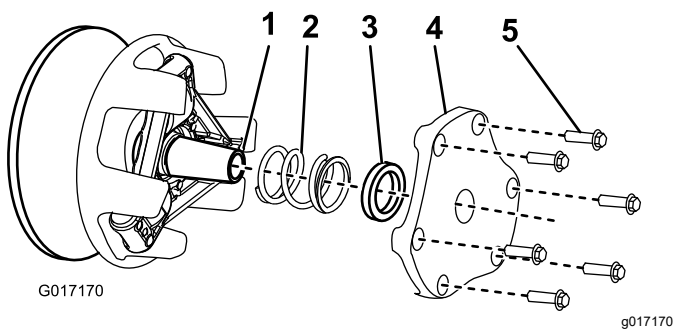

Figure 54
4. Set aside the cover, spacer, and spring (Figure 54).